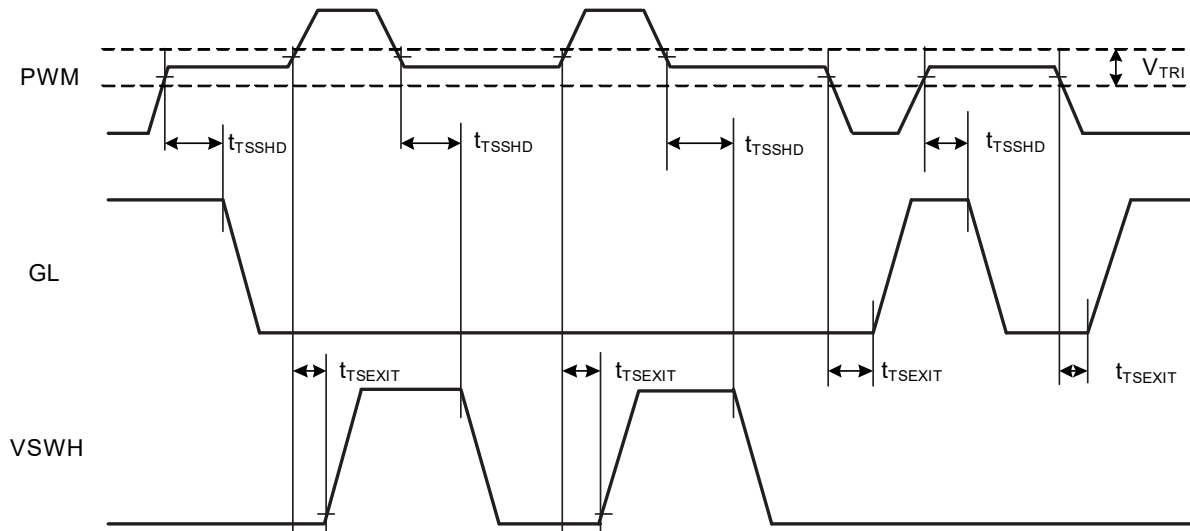

Figure 2. PWM Tri-State Holdoff and Exit Timing Diagram
**Note:** See Figure 2 for propagation delays and Tri-State window.